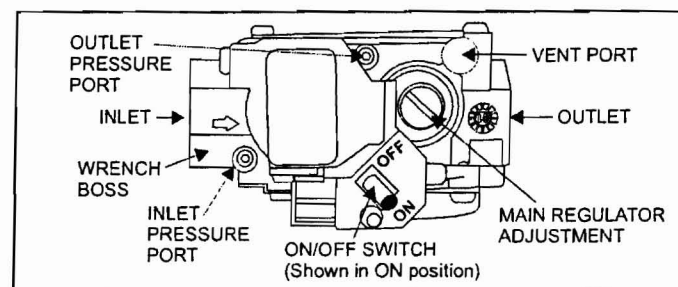

FIGURE 38: Gas Valve
Manifold gas pressure may be measured by two different procedures. It may be measured with the burner box cover in place or it may be measured with the burner box cover removed. Follow the appropriate section in the instructions below. Refer to Figure 38 for a drawing of the locations of the pressure ports on the gas valve.
1. Refer to Figure 38 for location of pressure regulator adjustment cap and adjustment screw on main gas valve.